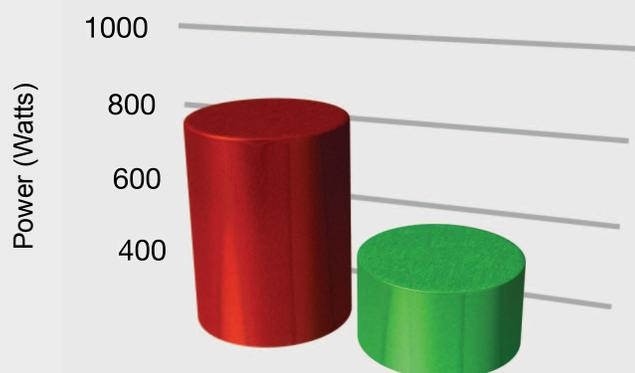

Figure 3. Impact of XYO on energy consumption of washing machine
- ▶ Figure 3 compares the steady-state power usage during the spin cycle.